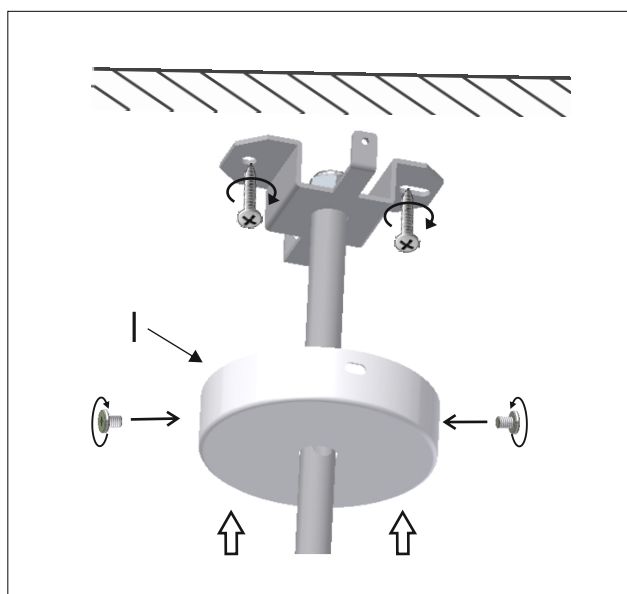

Figure 10
10 - Fix the mounting bracket to the ceiling. Place the cover (I) and secure it screwing the bolts. Repeat the same operation for the other stem. Figure 10.